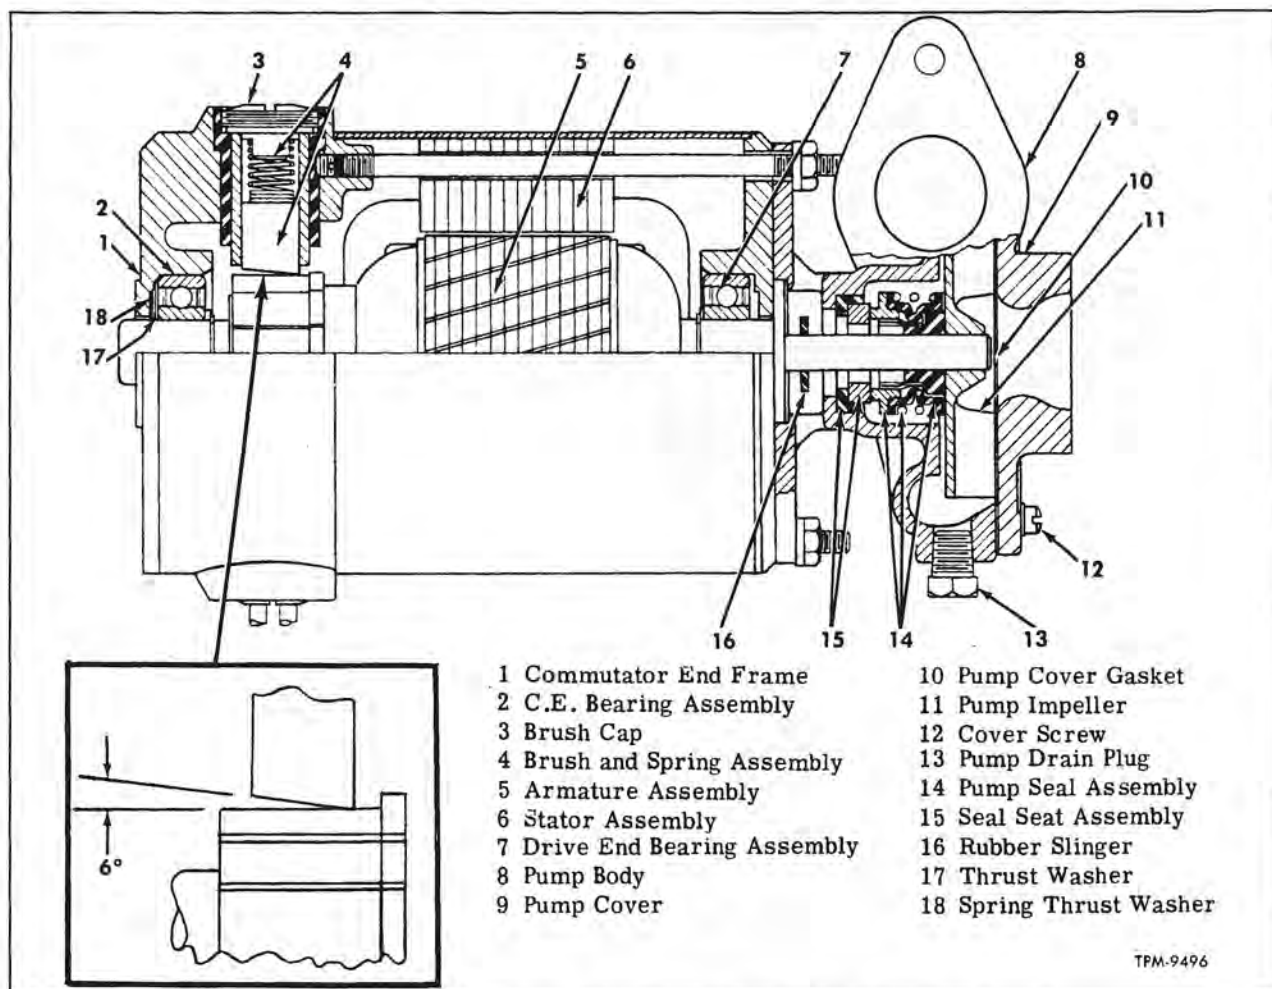

Figure 14—Heating System Water Pump and Motor
## DISASSEMBLY (Refer to Fig. 14)
## INSPECTION (Refer to Fig. 14)
- d. New brushes have a 6° angle on the brush face. The brush should always be inserted so the angle is open away from the pump end of the assembly (see fig. 14).
### ASSEMBLY (Refer to Fig. 14)